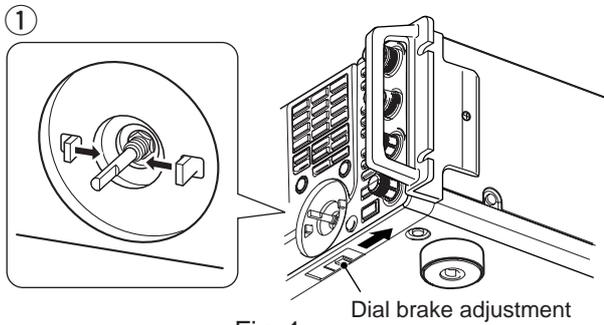

Fig. 1 Dial brake adjustment
- ① Slide the dial brake adjustment to the right position (Fig. 1).